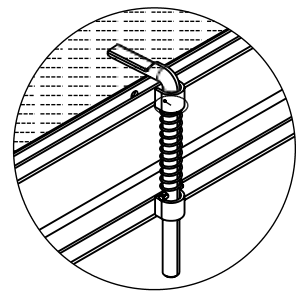

Fig 3
- 16 Turn the securing-pin towards the platform. (Fig 3)